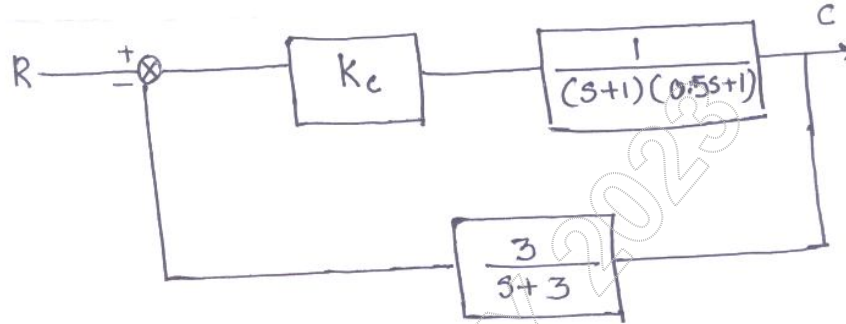

Fig. Q9 (b)
b. Write the characteristics equation and construct the routh Array for the control system shown in Fig. Q9 (b). Is the system stable for, (a)  $K_C = 9.5$ , (b)  $K_C = 11$  (c)  $K_C = 12$